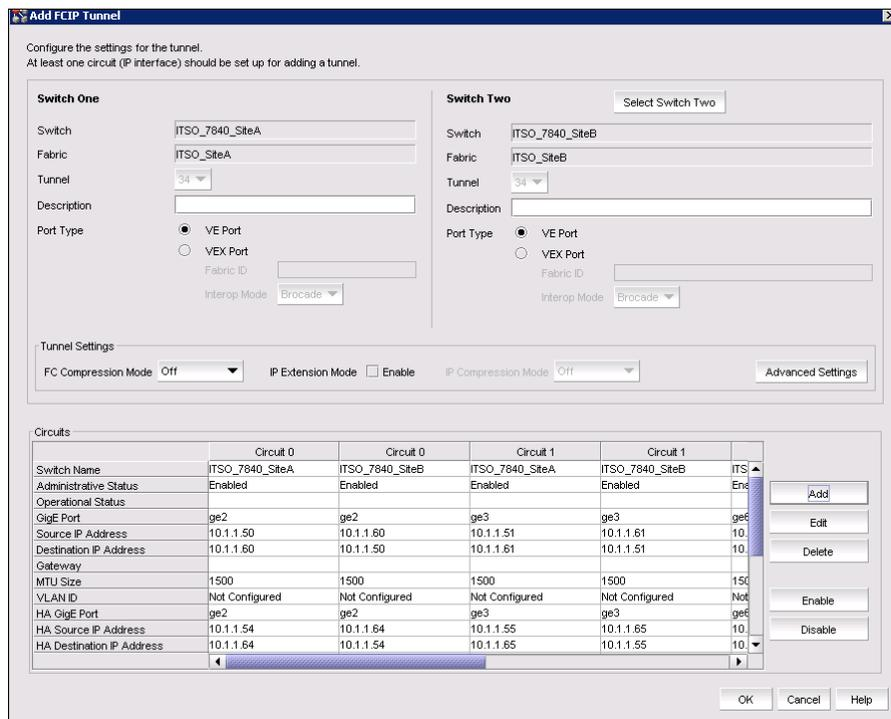

Figure 4-13 View the FCIP Tunnel properties
12. After the process, the FCIP tunnel has been created successfully. Click **Configure → FCIP Tunnels** to view general FCIP properties of each FCIP Tunnel (Figure 4-13).